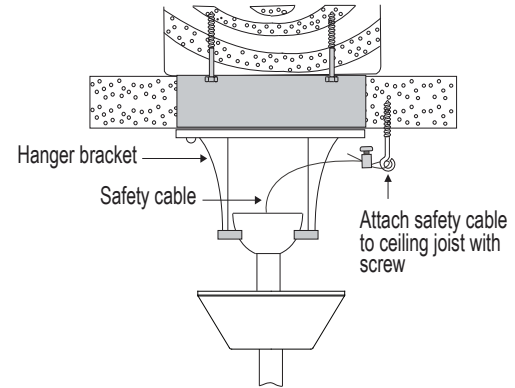

Fig. 10
**Step 1.** Attach the provided wood screw to the ceiling joist next to the mounting bracket. (Fig. 10)